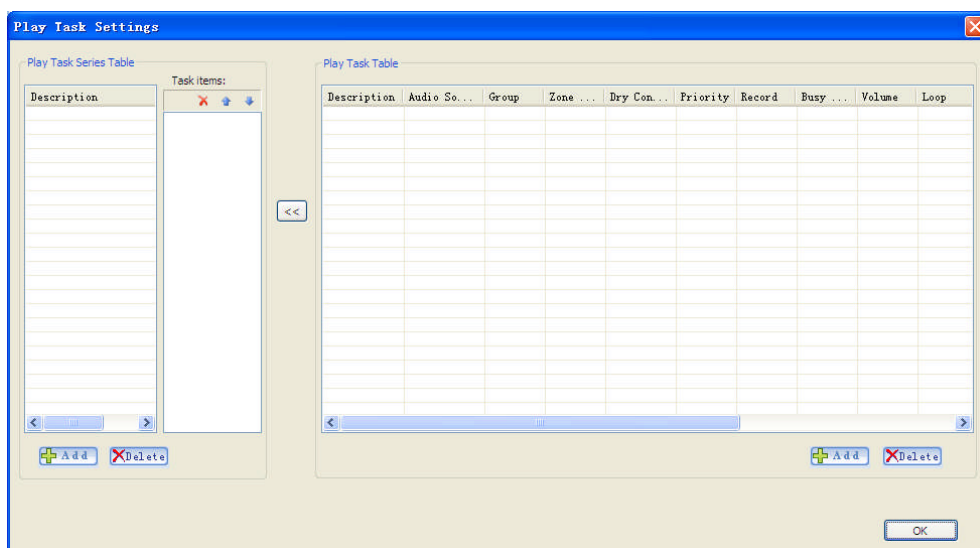

Figure 21 **Play Task Window**
Click the Play task on the subsystem area on the right of the window as shown in the Figure, the Play Task window displays as shown in the Figure 21.
1. Click the Add button on the right of the Play Task Setting window as shown in the Figure 21, the Add Play Task window displays as shown in the Figure 22.
1. Double-click the play task to edit in the Play Task Settings window as shown in the Figure 21, the Edit Play Task window displays.
1. Click Add button on the left of the window as shown in the Figure 21, the Add Series Description window displays.
1. Double-click the play task to edit on the left of the window as shown in the Figure 21, the Edit Task Series window displays.